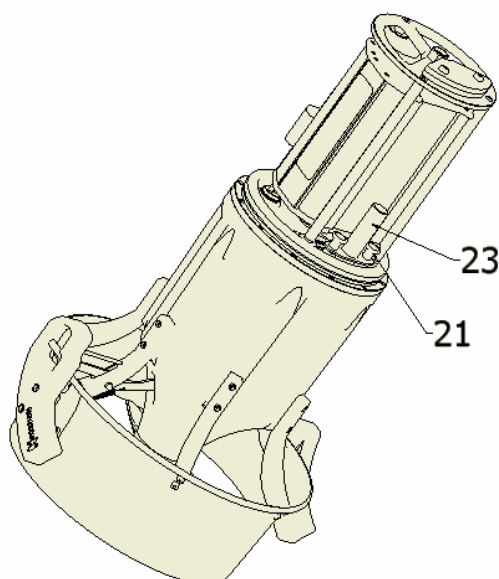

Figure 9
The HDV should have **NEUTRAL** buoyancy **and be practically horizontal** meaning it should not sink but remain stable at the desired depth. The vehicle is supplied neutrally buoyant or slightly float in fresh water. Additional weights (23), are provided to compensate for differences between use in fresh or salt water (see fig. 9) consisting in a stainless steel ballast that should be included or removed according to whether the HDV is used in fresh water (NOT USED) or seawater (USED).
Proceed as follows to insert the ballast (23): (see fig. 9)
IMPORTANT NOTE: Figure 9 illustrates the HDV in salt water settings, when using the HDV in fresh water, the ballast (23) should be removed from the HDV, the two knobs (21) may stay screwed into the HDV. This makes the HDV lighter and re-establishes the correct centre of gravity for the HDV to assume the right position underwater.